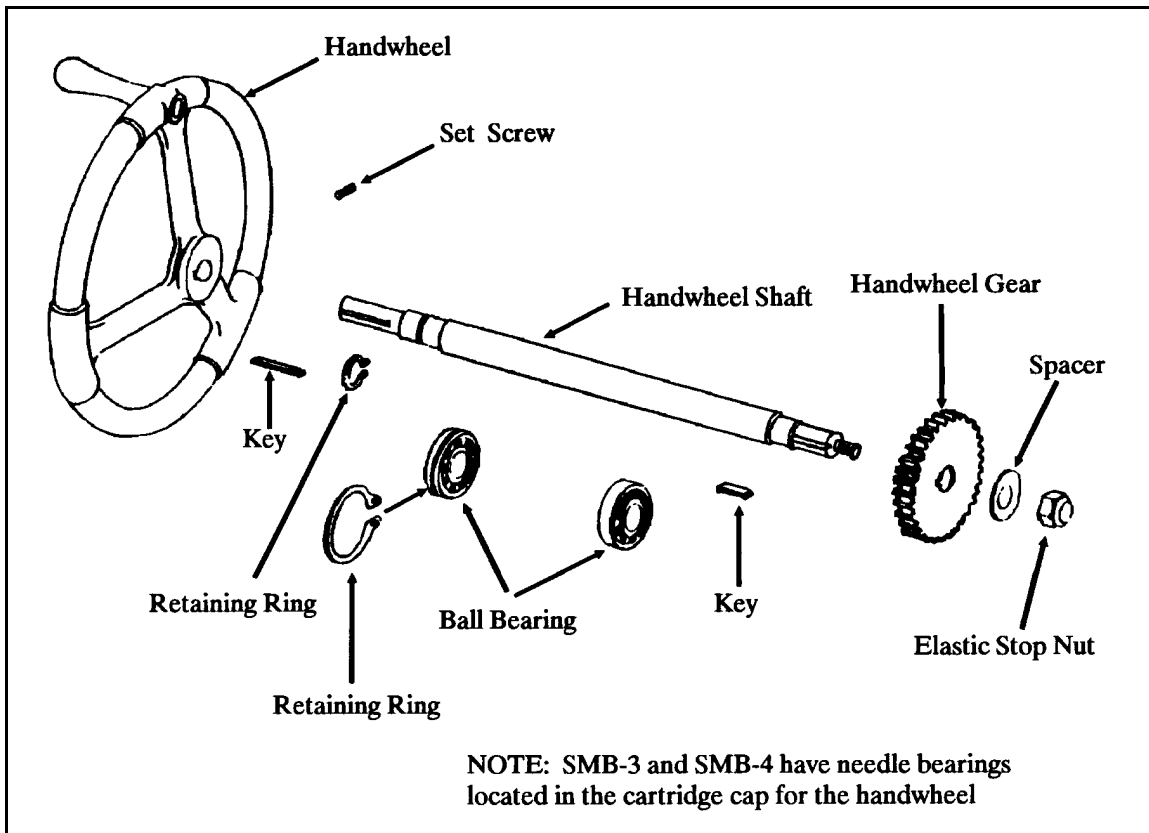

Figure 6-14 Handwheel Components
12. Handwheel Shaft Removal Refer to Figure 6-14